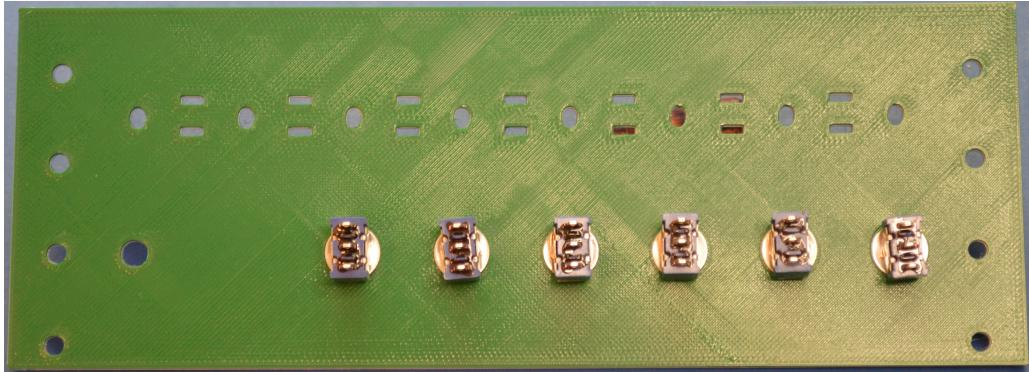

Figure 2.7: Control Panel Switches Showing Switches Installed
- Install the switches as shown in Figure 2.7. This example shows a control panel that only has six switches.